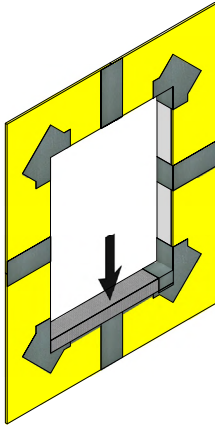

Figure 11
8. Cut Sheathing Fabric to desired size. Place the Sheathing Fabric into the wet Senershield-R/-RS/-VB. Lap mesh 63.5 mm (2 1/2") minimum at intersections. (See Figure 11)
9. Apply additional Senershield-R/-RS/-VB onto the Sheathing Fabric to embed. If necessary, apply a second coat. (See Figure 11)